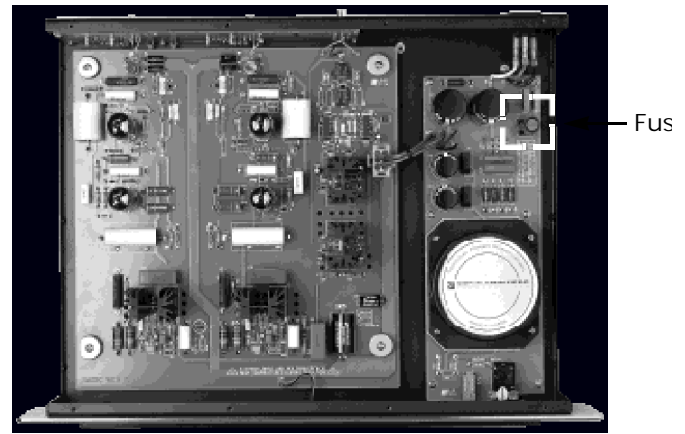

Figure 6 - The Fuse in the Phono 1 is located in the right rear corner of the phono stage chassis.
1. Check that the AC Detachable Power Cord is plugged into the Phono Stage's Detachable Power Cord Socket (D) and is connected to a live source of AC power. For instance, if using a power bar, check that the bar is turned on.
2. Be sure that the Power Switch (C) is in the "ON" position.
5. Check that the AC Line Fuse inside the PHONO 1 chassis is good. Be sure to first unplug the AC Detachable Power Cord from the chassis rear before removing chassis covers to check the fuse. For the fuse location see figure 6. To remove the fuse, simply push down and turn counter-clockwise the fuse holder and remove the fuse. If the fuse has blown, the thin metal conductor will have melted and the glass may appear "smoked". If the fuse has blown, replace with a fuse of the same type and rating (See specifications for fuse ratings).